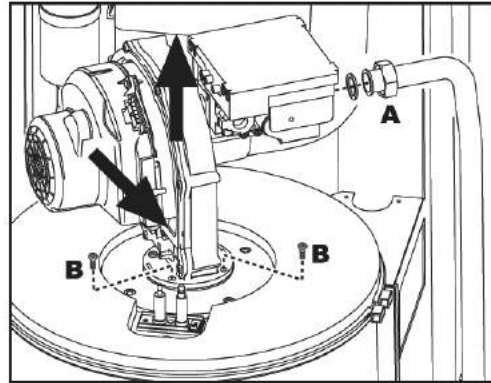
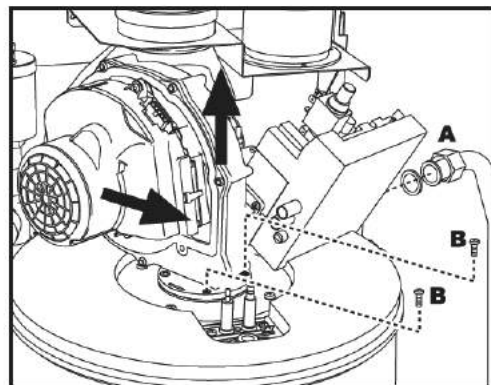

fig. 50 - model FUTURIA power 80 - 160
fig. 51 - model FUTURIA power 125 - 250
4. Loosen the **gas valve** (e) Fixing ring Fig" 50" A Fig 51.
5. Undo the two screws "B" and remove the fan assembly as indicated in Fig 50 for the model **80 - 160** and in for Fig 51 the model **125 - 250**.